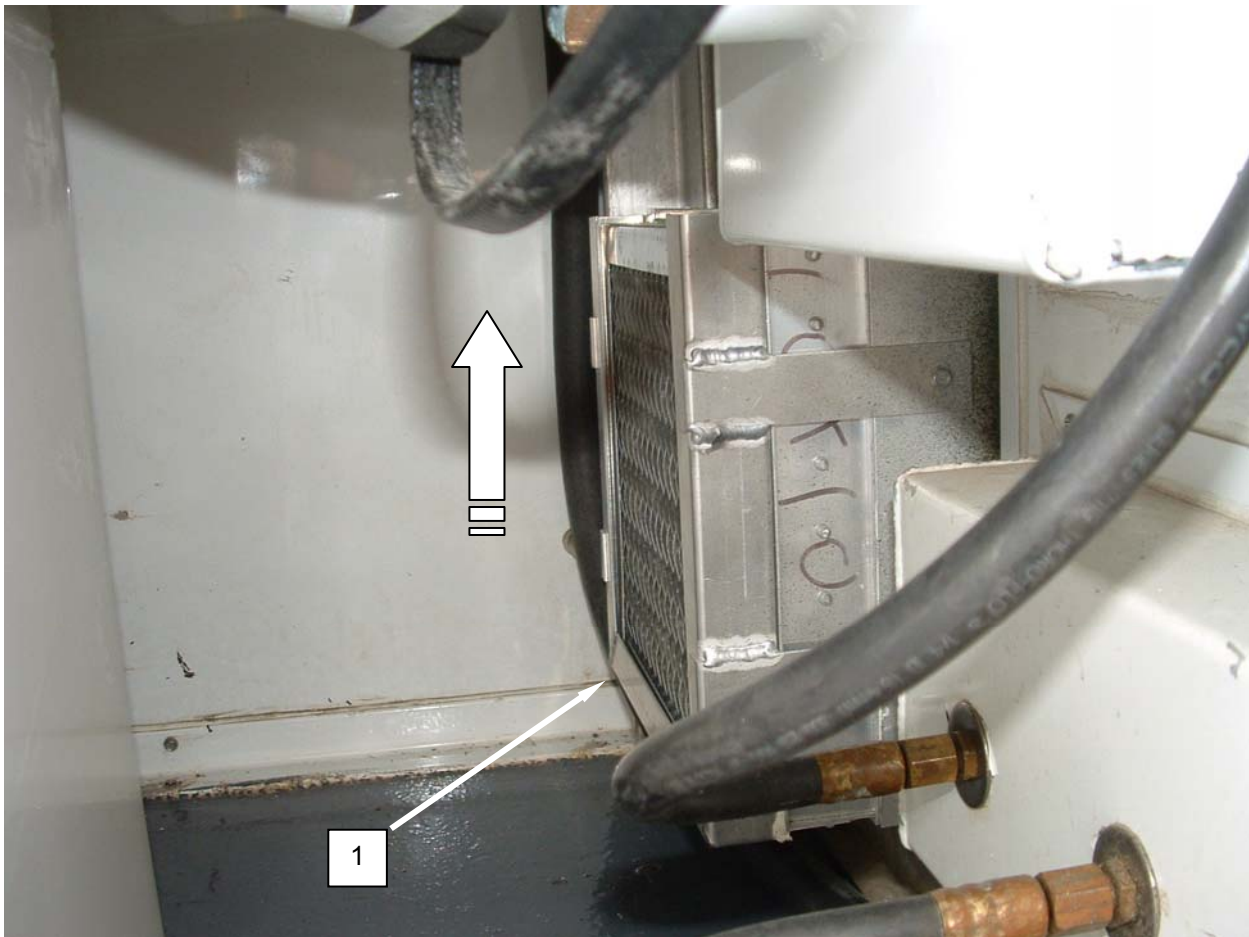

Figure 2. Clean the Boiler Air Filter.
1. Remove filter (**Figure 2, Item 1**) from filter mount under boiler.
3. Install filter (**Figure 2, Item 1**) into filter mount.